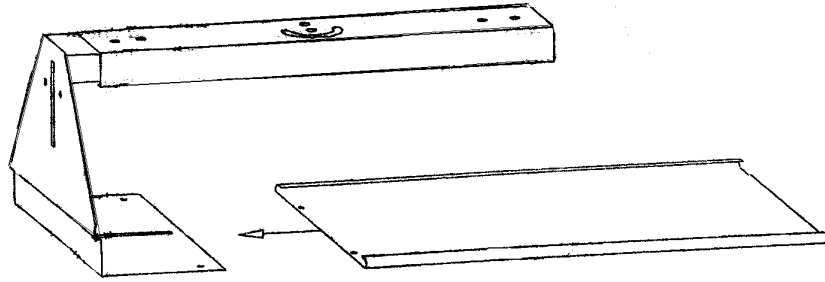

Figure 3. Security Bracket
3. Slide the security bracket onto the end plate as shown in Figure 3.